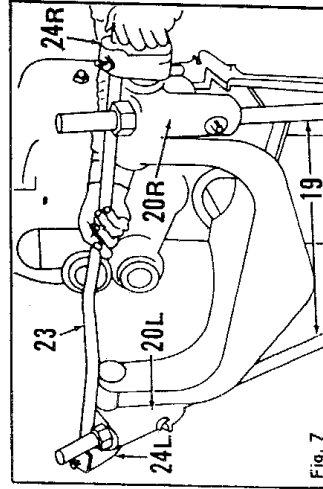

Fig. 7
4. Insert adjusting Rods (19) (Fig. 7) into holes in Pivot Sockets (20L) & (20R). Slip R.H. support Rod Lever (24R) over shaft on R.H. Pivot Socket (20R). Insert Lever Connecting Rod (23) into R.H. Support Rod Lever (24R). Install L.H. Support Rod Lever (24L) into L.H. Pivot Socket Shaft (20L) and onto lever Connecting Rod (23) simultaneously.